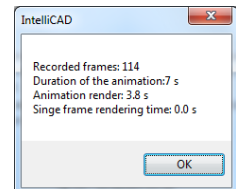

Fig. 315 – message informing that the AVI file has been saved to the disk
- the user will be informed when it is finished in a message including details of the saved video: number of frames, length of the video, the time of rendering the whole video and a time of rendering of a single frame (Fig. 315);